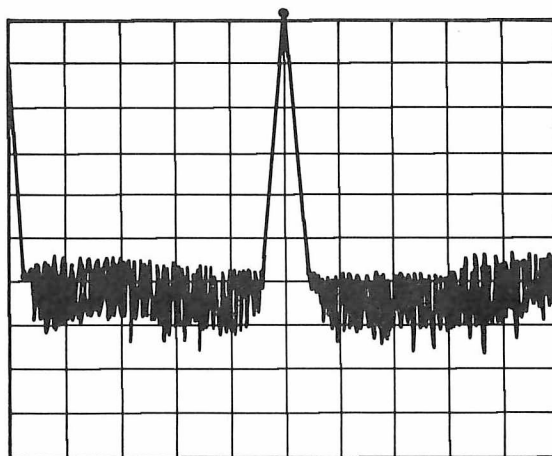

Figure 5-21. YO Loop Gain at A48J1
13. Press Sweep Generator 8340A **[CW]** then adjust rotary knob to set a frequency that will produce a center frequency readout on the Spectrum Analyzer of 25.0 MHz. (See Figure 5-21.) Turn off **[SIGNAL TRACK]** on Spectrum Analyzer.